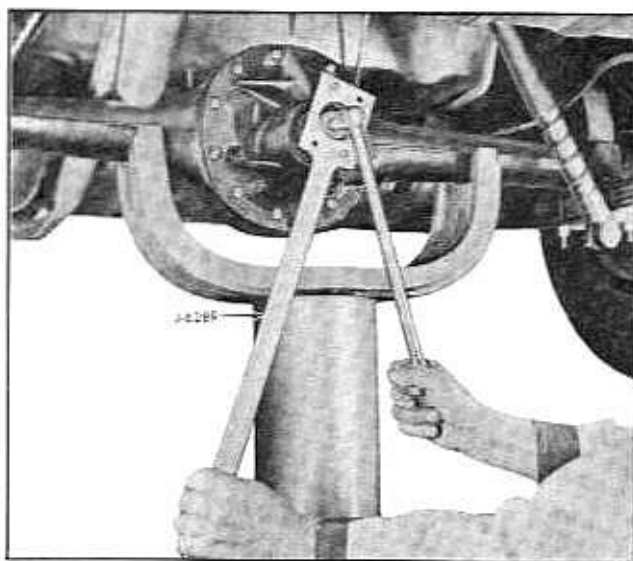
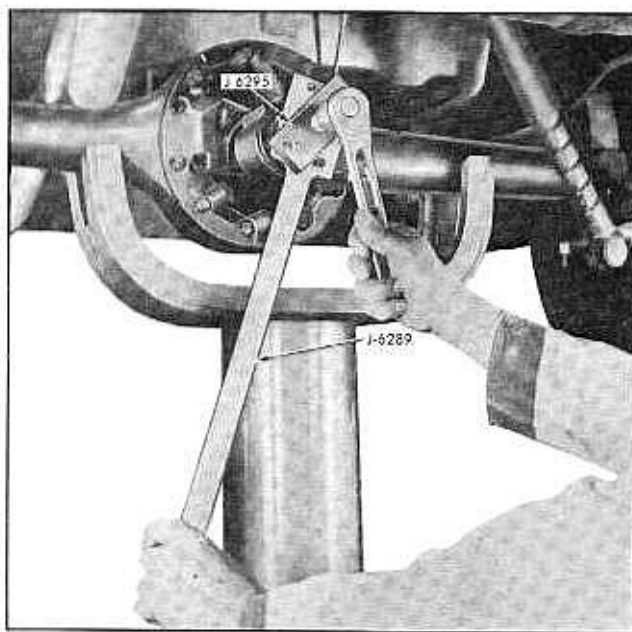

Fig. 4-5 Holding Companion Flange With Holding Tool J-6289
Fig. 4-6 Removing Companion Flange With Puller J-6295
4. Hold companion flange with Holding Tool J-6289 (Fig. 4-5) and remove drive pinion nut and washer using a heavy duty socket.
5. Remove companion flange using Puller J-6295 (Fig. 4-6).
2. Remove drive pinion nut and washer using Holding Tool J-6289 (Fig. 4-5); remove companion flange, using Puller J-6295 (Fig. 4-6).